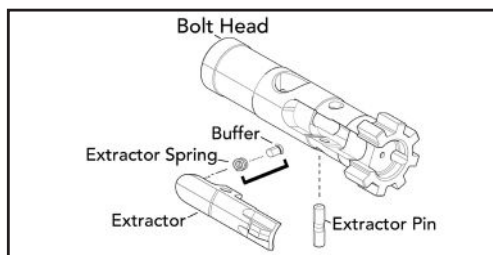

Fig. 55 – Extractor reassembly
- a. Mount the extractor spring and buffer onto the extractor, ensuring that the wider surface of both the spring and buffer are mounted on the circular mounting surface on the extractor and that the tapered (narrower) surface faces upwards (Fig. 55).